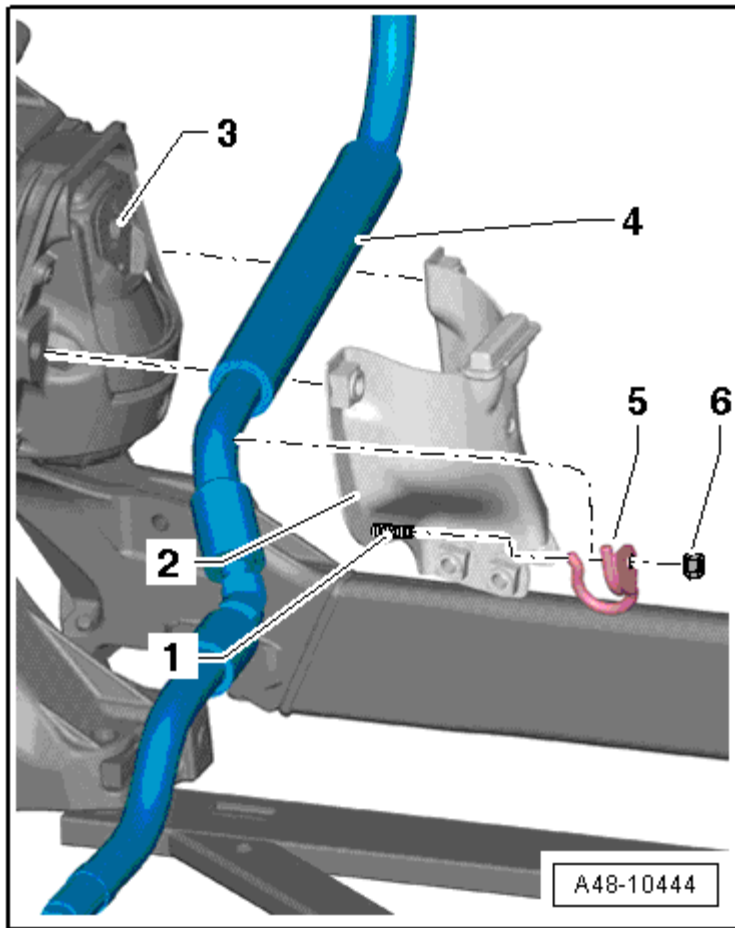

Fig. 45: Pressurized Line To Engine Mount
8. Pressurized line to the engine mount, refer to **Fig. 45**